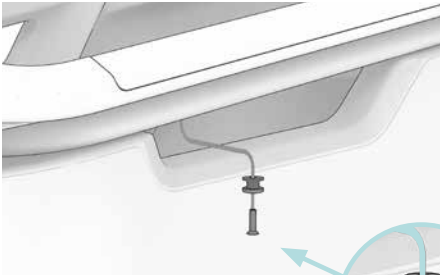

Fig. 26
Place the round heads ⑨ on the M5 countersunk head screws ⑩. These are then screwed into the underside of each rail (side opening of the transport box) on the left and right sides to a tightening torque of 4 to 5 Nm (Fig. 26).